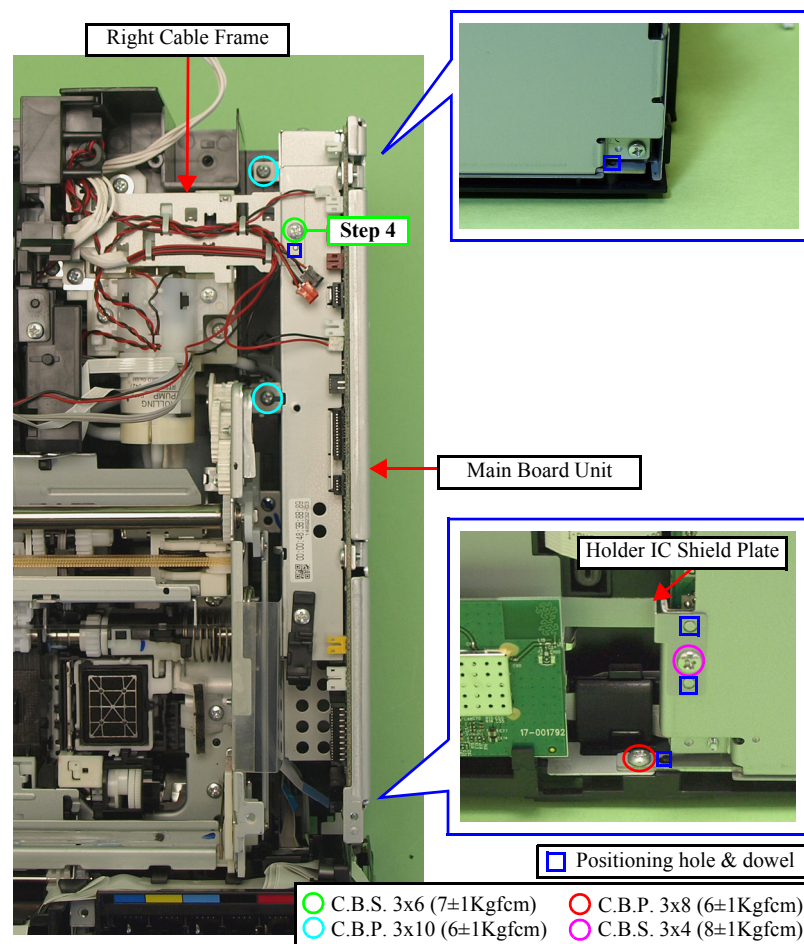
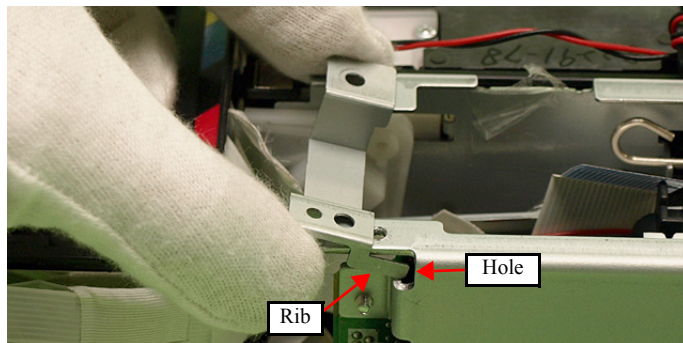

Figure 4-185. Removing the Main Board
Figure 4-186. Attaching the Grounding Plate M/B
- Remove the screw (x1) that secures the Right Cable Frame and the Main Board. (See Fig. 4-185.)
- Align the positioning holes (x2) of the Main Board Unit with the dowels (x2) of the Base Frame. (See Fig. 4-185.)
- Align the dowels (x2) of the Main Board Unit with the positioning holes (x2) of the Holder IC Shield Plate. (See Fig. 4-185.)
- Align the dowel (x1) of the Main Board Unit with the positioning hole (x1) of the Right Cable Frame. (See Fig. 4-185.)
- Insert the rib (x1) of the Grounding Plate M/B to the hole of the Main Board Unit, and align the positioning hole (x1) of the Grounding Plate M/B with the dowel (x1) of the Main Board Unit, and attach the Grounding Plate M/B. (See Fig. 4-185, Fig. 4-186.)